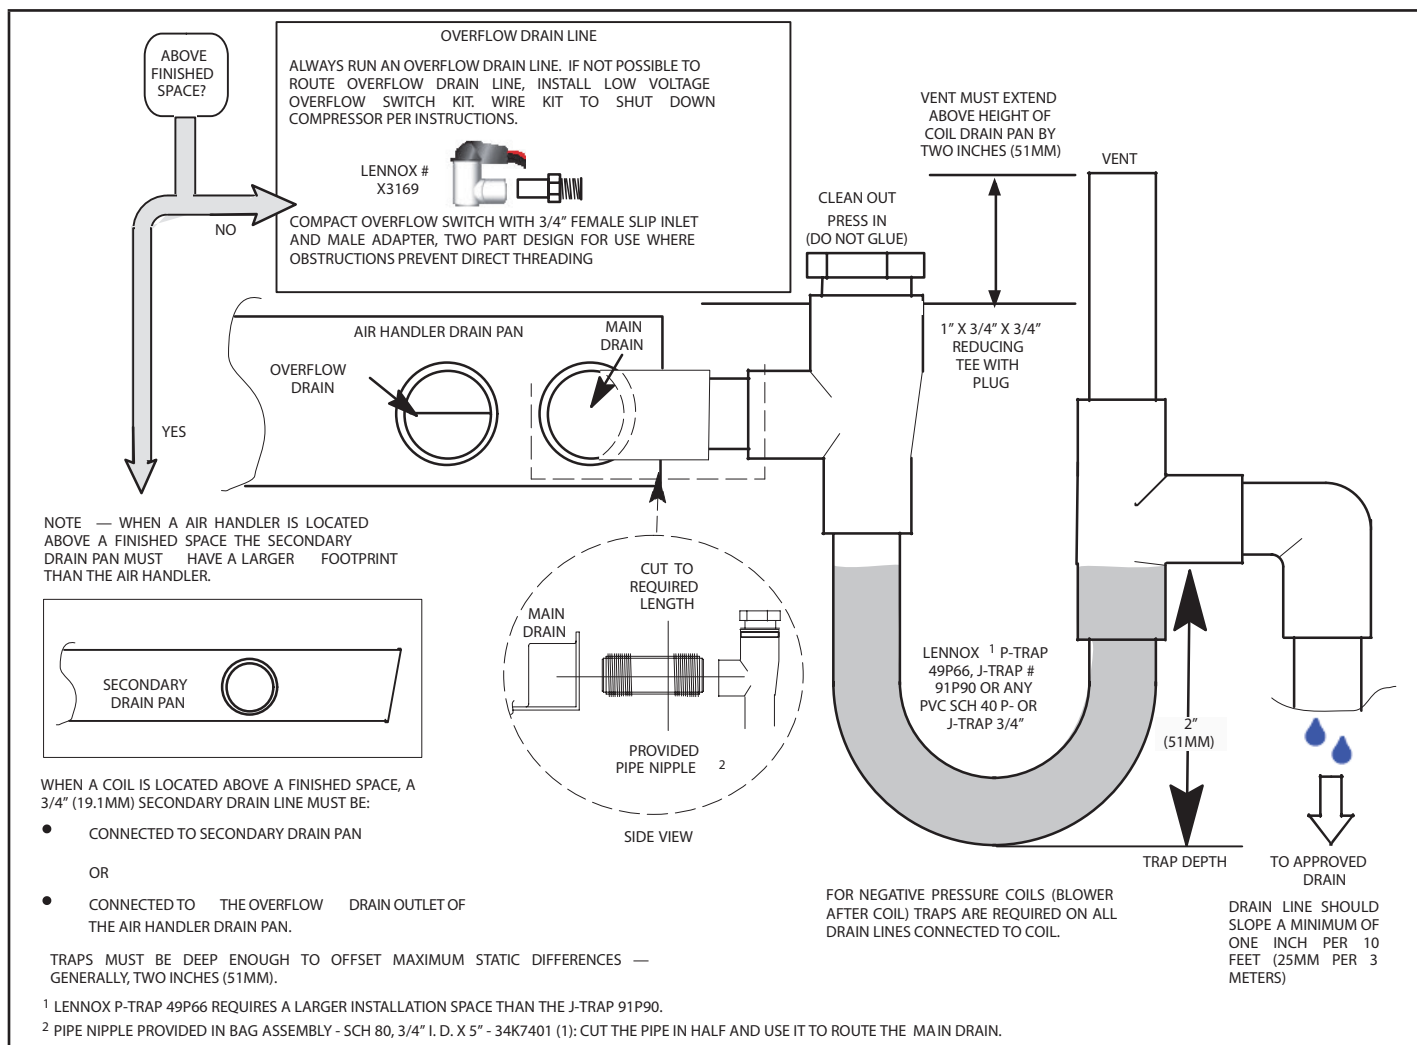

FIGURE 29. Typical Main and Overflow Drain Installations
- 7 - Install a 2" trap in the primary drain lines as close to the unit as practical (see figure 29). Make sure the top of the trap is below the connection to the drain pan to allow complete drainage of the pan.